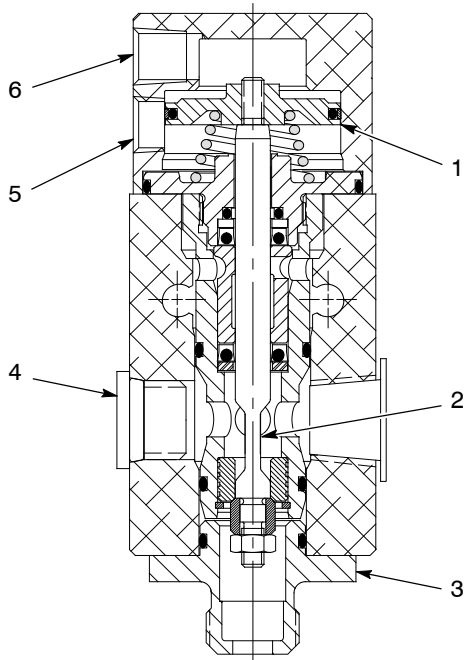

Figure 1 Cutaway View of Dispensing Valve
See Figures 1 and 2. The dispensing valve has a negative pressure material cut-off to eliminate drips and stringing. It can be used to dispense a variety of materials, including silicones, grease, mastics, epoxies, and urethanes. Standalone and manifold mount versions are available.
See Figure 1. The needle (2) in the dispensing valve has a recess above the tip. When air is supplied to the valve-open air inlet (6), the piston is pushed downward, aligning the recess and seat. Material flows in the material inlet (4) and out between the recess and seat. When air is shut off from the valve-open air inlet, a spring in the packing cartridge forces the needle upward; the tip returns to the seat and stops material dispensing. When air is supplied to the valve-close air inlet (5), it forces the piston upward to quickly return the needle to the seat.
See Figure 1. Air must be supplied to the valve-open air inlet (6). A spring will force the valve closed when air is shut off to the valve-open air inlet. To obtain quicker response:
- supply air to the valve-close air inlet (5).